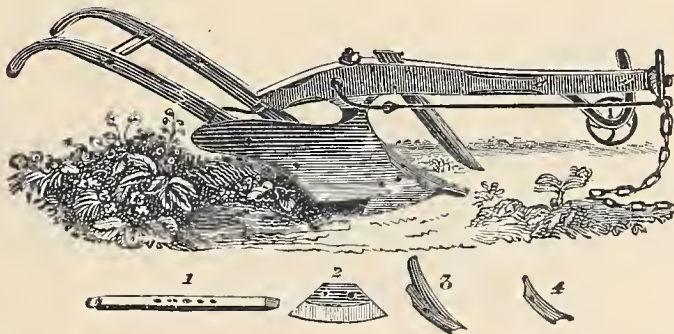

Fig. 284.—Eagle Self-Sharpener Plow.
*The Eagle Self-Sharpener Plows*, represented by *Fig. 284*, are of same form and general construction as the other celebrated EAGLE PLOWS, except that the point and share or wing are made separate, and upon an approved self-sharpening principle. The point shown detached at No. 1 is simply a bar of steel, sharpened at each end, about twelve to fifteen inches long, which passes upward into the body of the plow, where it is confined with one bolt. As this bar is worn on the under side, and becomes shorter, it is readily moved forward, and turned the other side up, thus always presenting a sharp point of full length and proper shape; and when one end is worn off five inches, the other end is placed forward, and performs a like service. The wing, as shown detached at No. 2, is made of cast-iron, and is also reversible, being used either end forward, or either side up. There is a cap of cast-iron, a little back and above the point shown detached at No. 4, which protects the shin or forward part of the mould-board, and is confined in its place by the same bolt that holds the point. Fin-caps are sometimes made, as represented at No. 3.